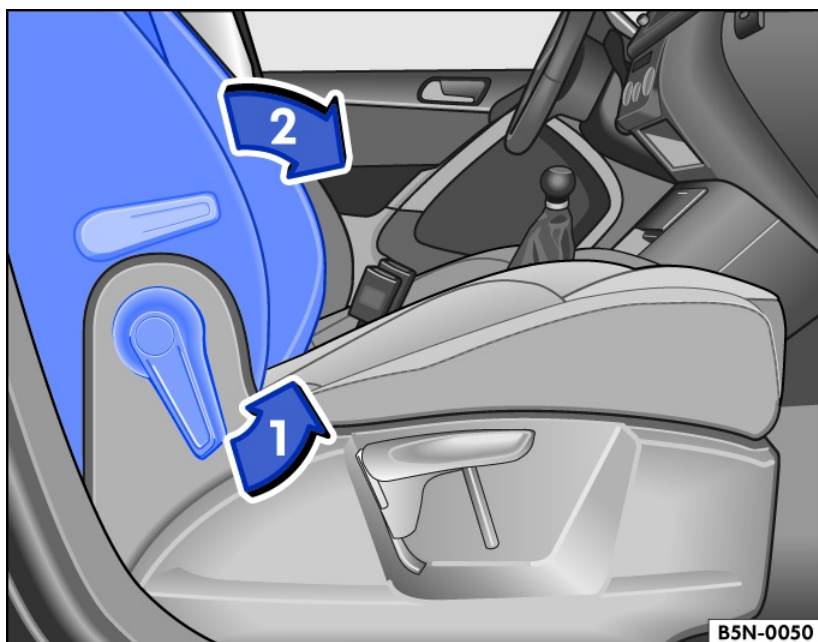

Fig. 79 Front passenger seat: Fold backrest forwards.
- Unlock the front passenger backrest in the direction of the arrows fig. 79.
- Fold the front passenger backrest forwards in the direction of the arrows fig. 79 into the horizontal position.
- To unfold the front passenger backrest unlock it again fig. 79.